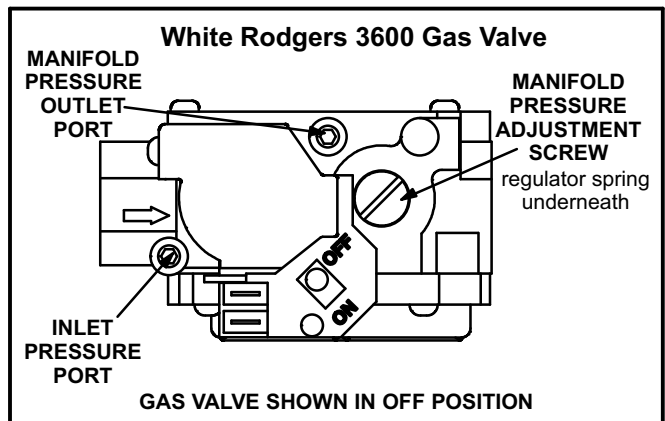

Figure 3
- 2 - Remove the access panel. Move the automatic gas valve switch to **OFF**. See figure 3.
- 6 - Move the switch on the gas valve to **OFF**. Do not force the switch. See figure 3.
The White Rodgers 36G24 gas valve (figure 3) is equipped with pressure posts for measuring supply and manifold pressures. The posts provide built-in 7.9mm (5/16") hose connections and have an integral 2.4mm (3/32") Allen-head screw. Rotate the screw counterclockwise one full turn to permit pressure measurement. Reseat the screw (rotate one full turn clockwise) after measurements have been taken to prevent gas leakage.
After the line pressure has been checked and adjusted, check the manifold pressure per table 2. See figure 3 for the location of the manifold pressure adjustment screw.
- 5 - If necessary, make adjustments. Figure 3 shows location of manifold adjustment screw.